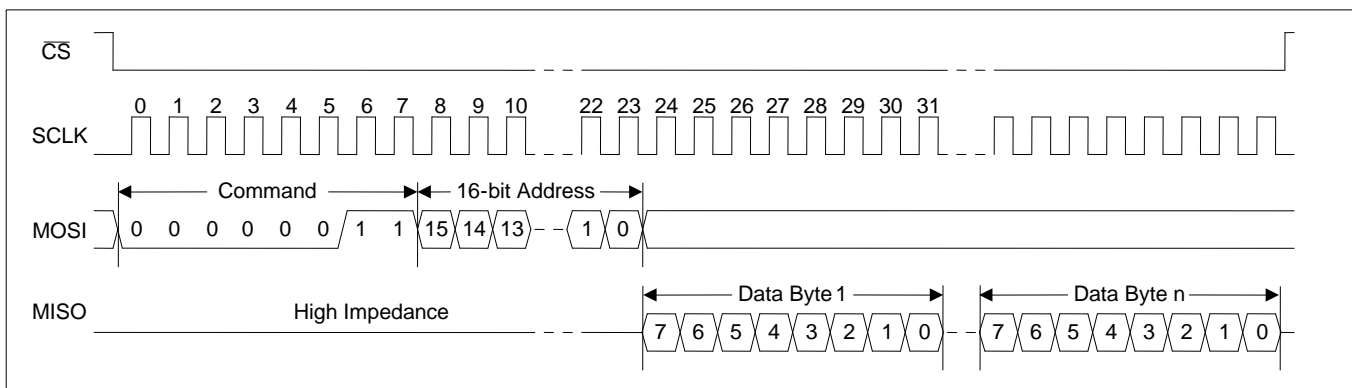

Figure 6 - SPI Read Transaction Functional Timing
**Read Transactions.** The device registers are accessible when  $\overline{\text{ESEL}}=0$ . On ZL3026x devices with internal EEPROM, the EEPROM memory is accessible when the  $\overline{\text{ESEL}}$  bit is 1. On ZL3026x devices without internal EEPROM, the  $\overline{\text{ESEL}}$  bit must be set to 0. After driving CSN low, the bus master transmits the read command followed by the 16-bit address. The device then responds with the requested data byte on MISO, increments its address counter, and prefetches the next data byte. If the bus master continues to demand data, the device continues to provide the data on MISO, increment its address counter, and prefetch the following byte. The read transaction is completed when the bus master drives CSN high. See Figure 6.
**Read Transactions.** After driving CSN low, the device transmits the read command followed by the 16-bit register address. The external EEPROM then responds with the requested data byte on MISO, increments its address counter, and prefetches the next data byte. If the device continues to demand data, the EEPROM continues to provide the data on MISO, increment its address counter, and prefetch the following byte. The read transaction is completed when the device drives CSN high. See Figure 6.